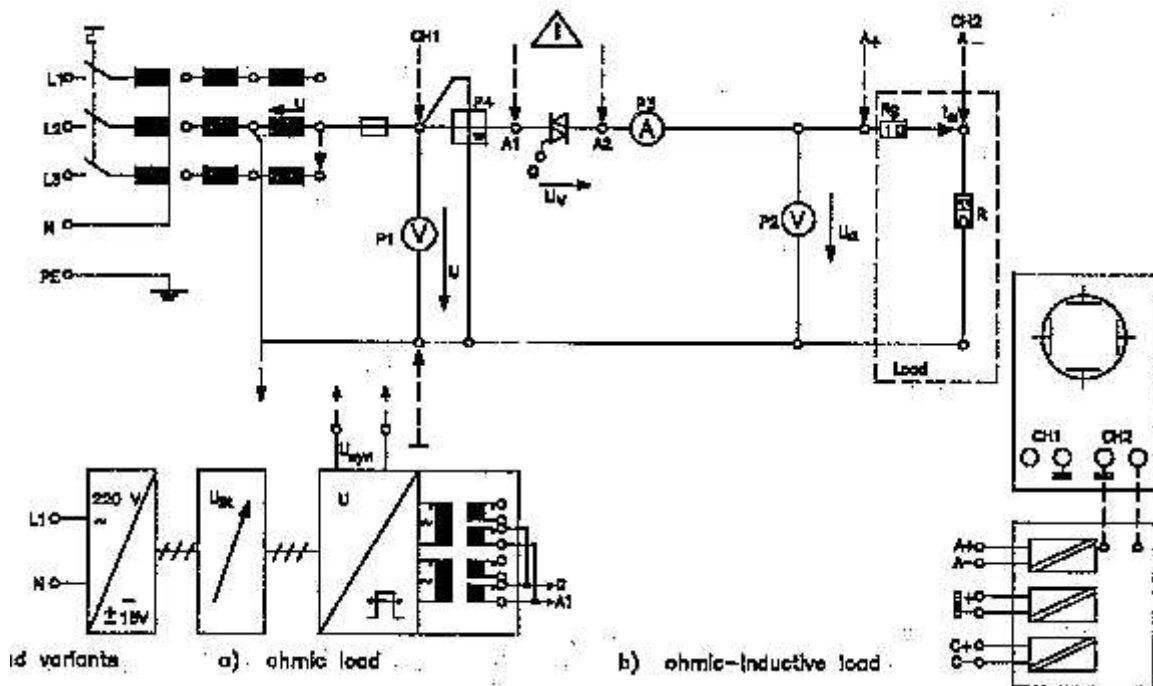

Figure 2 Triac AC controller
- ✓ Use the circuit shown in Figure 2
- Connect the power circuit as shown in Figure 2, while using the supply voltage equal to 45V and a load made up of a resistance of 33 Ω , (three 100 Ω resistance connected in parallel).